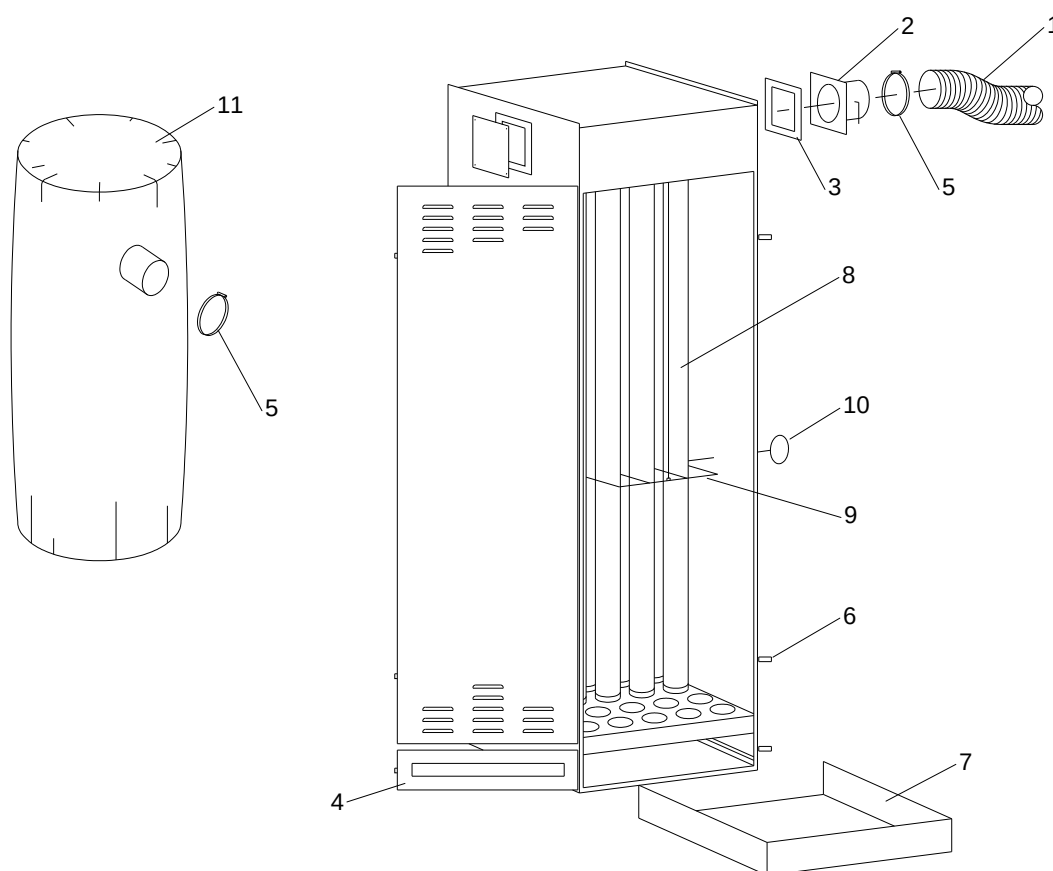

Figure 23
8.9 Dry Filter Dust Collector and Dust Bags, Figure 23